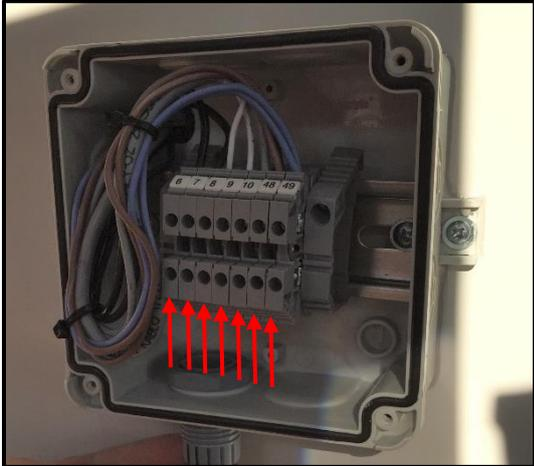

Fig. 76
7. Connect the cables to the terminals and close the terminal box cover. Refer to chapter 8 for cable connections. (Fig. 76)